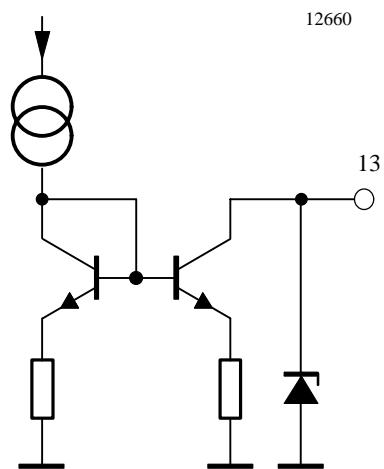

Figure 13. Pin 13 SW_{out}
1) Measured at Pin 9, (12) referred to $330 \text{ }\Omega$
2) Protected by a Z-diode, see figure 13